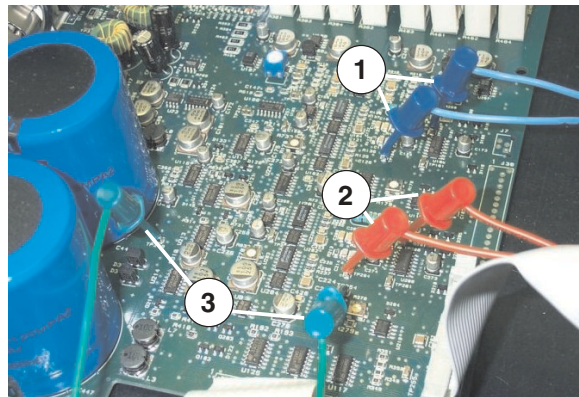

Figure 4.6 Shorting Jumpers
1. Nulls off the error amplifier output of channel 1 by placing a jumper between TP100 and TP104 (Jumper 1 in Figure 4.6).
2. Nulls off the error amplifier output of channel 2 by placing a jumper between TP200 and TP204 (Jumper 2 in Figure 4.6).
in Figure 4.6).